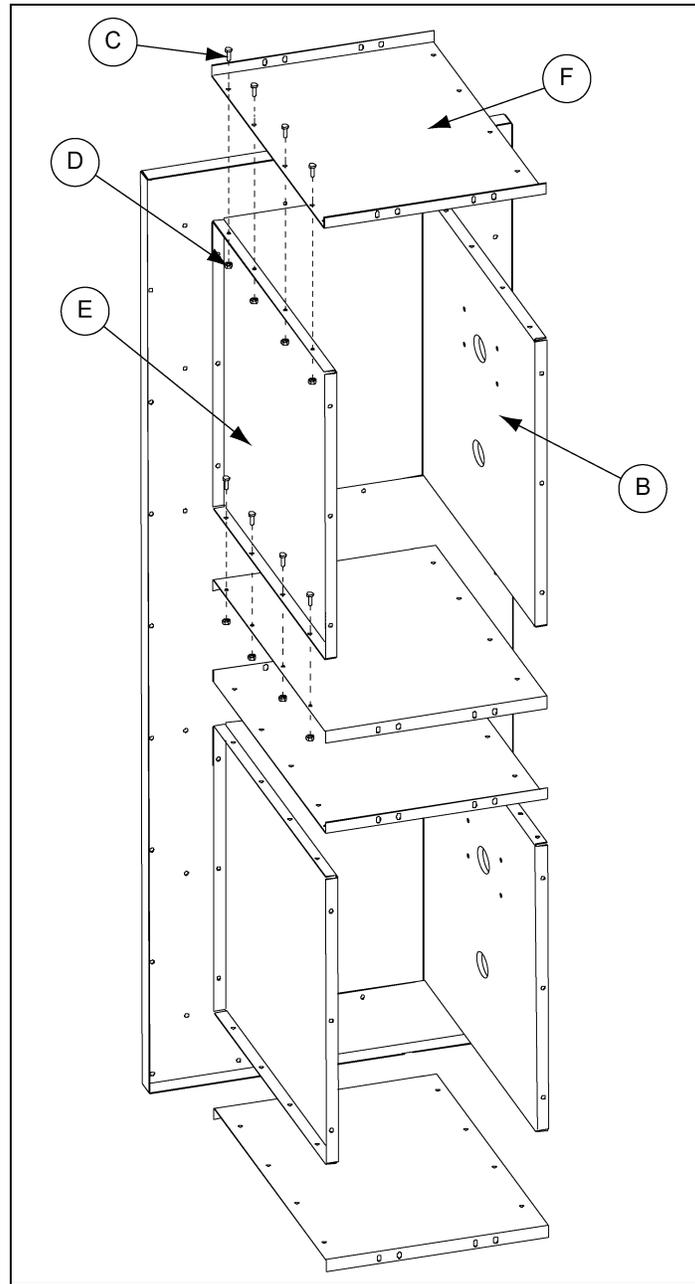

**Figure 6G**
1. Attach four (4) exhaust extension sides (B and E) to the duct mounting plate (A) using three (3) 5/16" x 3/4" flange bolts (C) and 5/16" flange nuts (D) per each side. (See Figure 6G.)